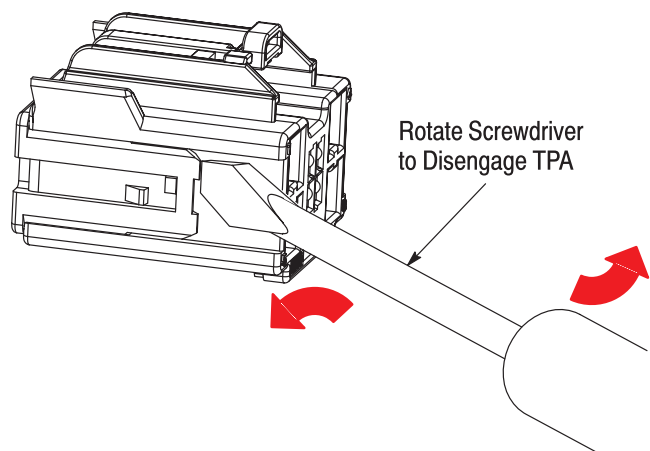

Figure 3
3. Place the tool tip in the gap between the housing and the TPA, pulling the corners forward, individually to disengage the side latches if needed. See Figure 3.